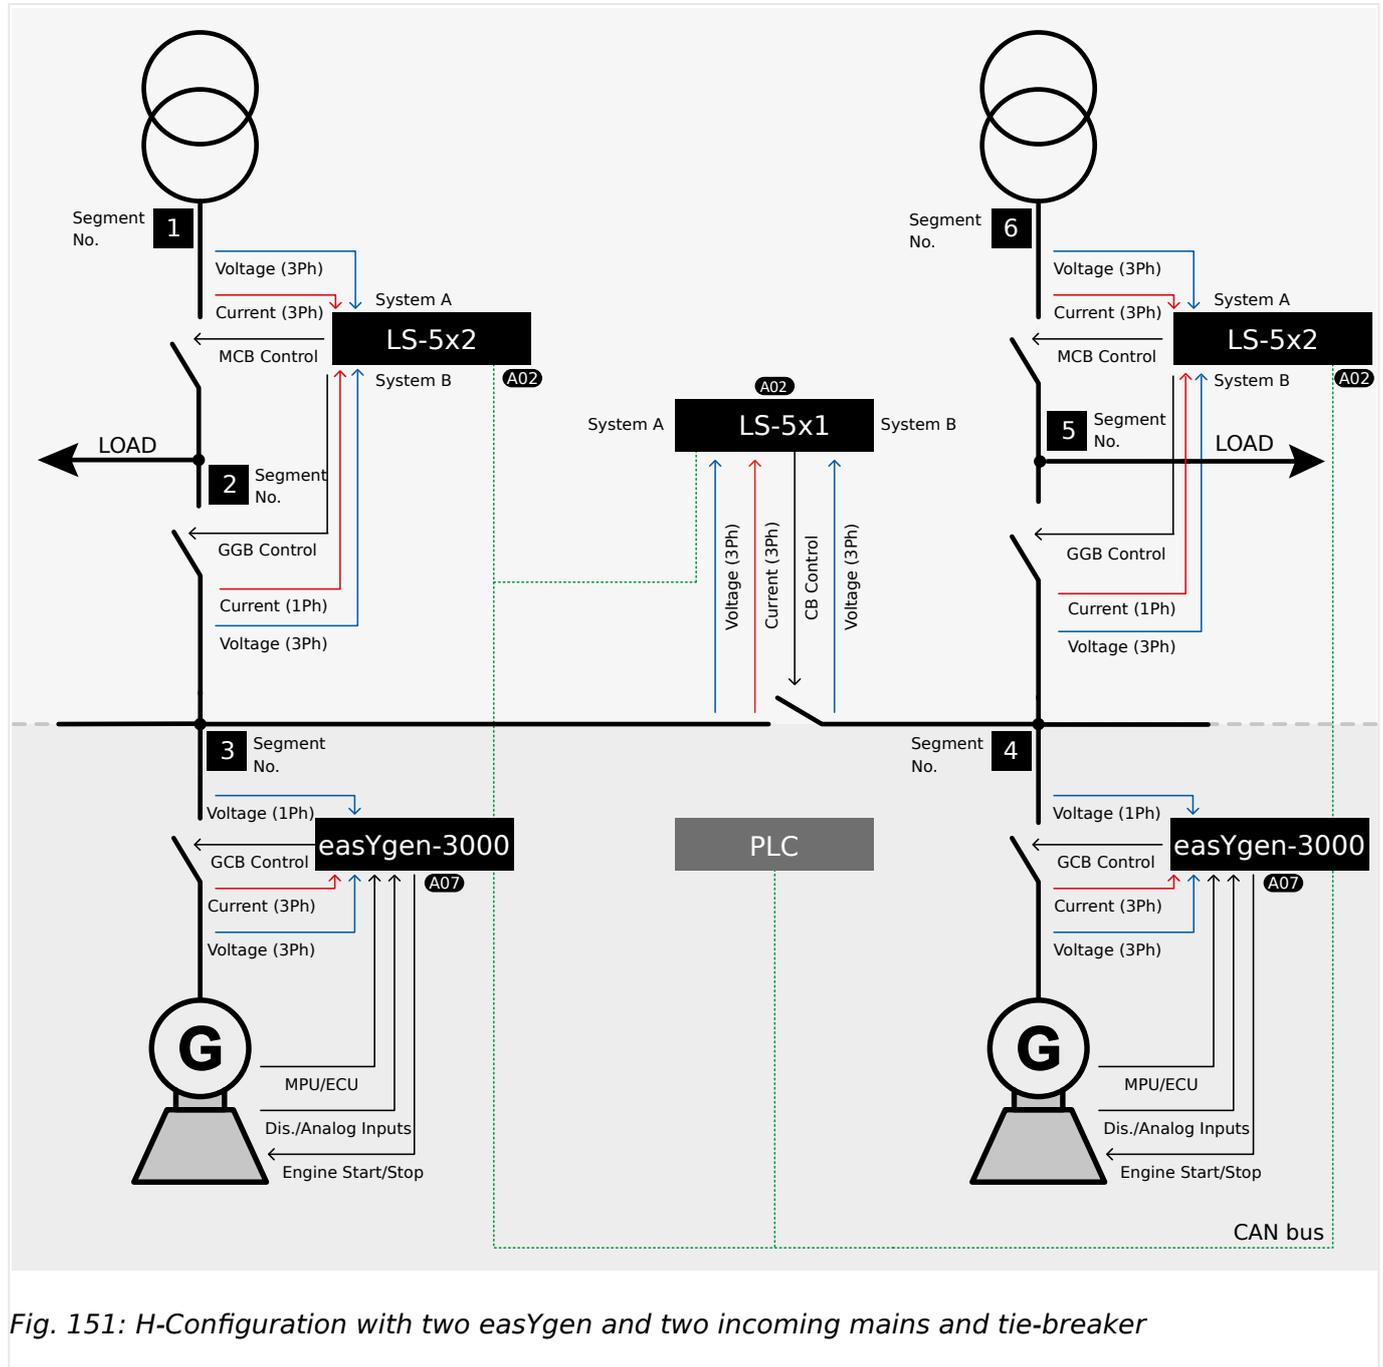

Fig. 151: H-Configuration with two easYgen and two incoming mains and tie-breaker
1. ▷ The system A voltage and current measurement is connected to the generator busbar segment (↳ Fig. 151 / Segment No. 3).
2. ▷ The system B voltage measurement is connected to the generator busbar segment (↳ Fig. 151 / Segment No. 4).